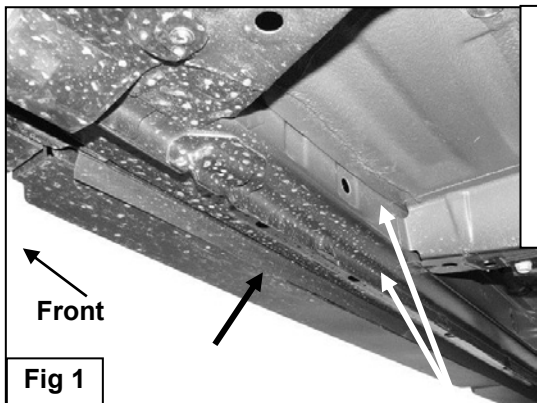

Fig 1
1. Start installation on the passenger side of the vehicle. Locate and remove the (2) rubber plugs in the bottom of the outer frame channel closest to the front wheel opening, **(Figure 1)**.